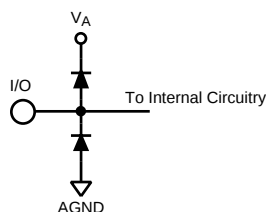

Figure 2.
- (1) The inputs are protected as shown below. Input voltage magnitudes above V_A or below GND will not damage this device, provided current is limited per Note 4 of the Absolute Maximum Ratings Table. However, errors in the A/D conversion can occur if the input goes above 2.6V or below GND as described in the Operating Ratings section. See Figure 2.
- (2) With a full scale differential input of $2V_{P-P}$, the 14-bit LSB is $122.1\text{ }\mu\text{V}$.
- (3) Typical figures are at $T_A = 25^\circ\text{C}$ and represent most likely parametric norms at the time of product characterization. The typical specifications are not guaranteed.
- (4) Parameters specified in dBFS indicate the value that would be attained with a full-scale input signal.
- (2) With a full scale differential input of $2V_{P-P}$, the 14-bit LSB is 122.1 μV .
- (4) I_{DR} is the current consumed by the switching of the output drivers and is primarily determined by load capacitance on the output pins, the supply voltage, V_{DR} , and the rate at which the outputs are switching (which is signal dependent). $I_{DR} = V_{DR}(C_0 \times f_0 + C_1 \times f_1 + \dots C_{13} \times f_{13})$ where V_{DR} is the output driver power supply voltage, C_n is total capacitance on the output pin, and f_n is the average frequency at which that pin is toggling.
- (4) This parameter is guaranteed by design and/or characterization and is not tested in production.
- (5) I_{DR} is the current consumed by the switching of the output drivers and is primarily determined by load capacitance on the output pins, the supply voltage, V_{DR} , and the rate at which the outputs are switching (which is signal dependent). $I_{DR} = V_{DR}(C_0 \times f_0 + C_1 \times f_1 + \dots C_{13} \times f_{13})$ where V_{DR} is the output driver power supply voltage, C_n is total capacitance on the output pin, and f_n is the average frequency at which that pin is toggling.